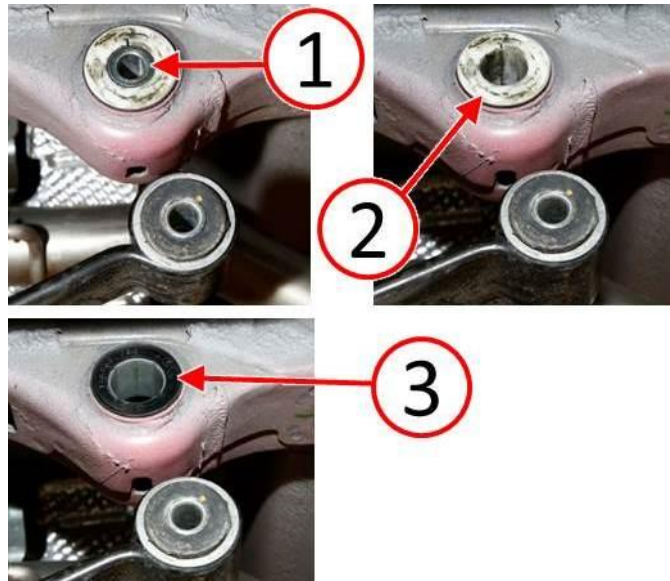

Fig. 6 Remove Bushing Spacer And Sleeve
7. Remove the bushing spacer (1), and white plastic sleeves (2) from both shackle bushings (3) (Fig. 6)